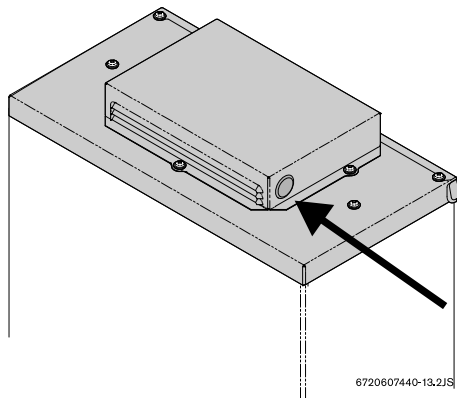

Fig. 35
- ▶ Turn ON/OFF switch to the OFF (O) position.
- ▶ Remove plug by prying with a small flathead screwdriver. Fig. 35